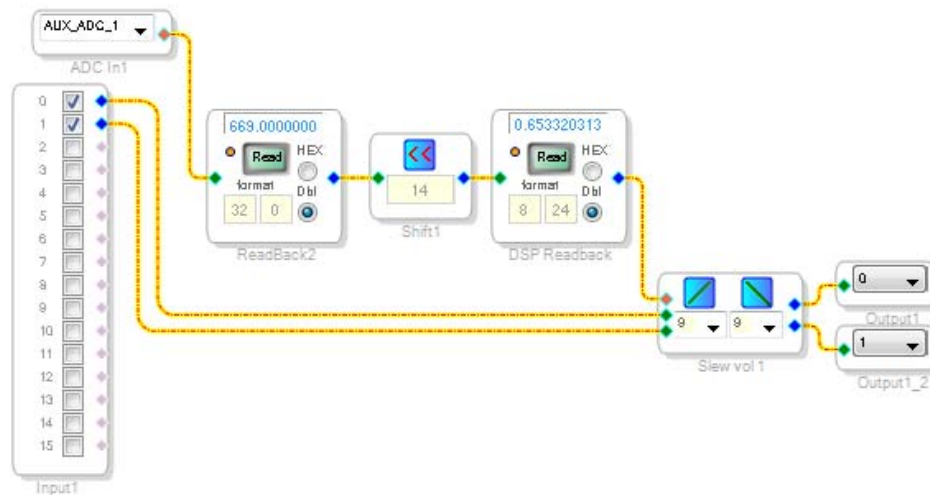

Figure 58. Completed Signal Flow with DSP Read Back
- The arithmetic shift block performs a bitwise right shift or left shift. Click the blue button to select the direction. Ensure the block is performing a left shift. The block appears as shown in Figure 58.
- To set the number of bits by which the input are shifted to 14, click and type in the yellow text box. The block appears as shown in Figure 58.
7. Wire the blocks together as shown in Figure 58. Note that the position of blocks in the diagram does not matter.
The schematic (see Figure 58) shows audio from input Channel 0 and Channel 1 connected to the input of a volume control block. The volume is controlled by the value of the AUXADC1 channel, which is controlled by the left potentiometer, R1.